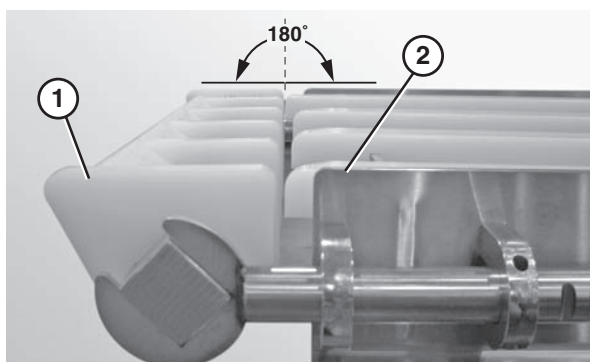

Figure 24
- Ensure that the nose bar pucks (Figure 24, item 1) are in line with the conveyor frame (Figure 24, item 2).